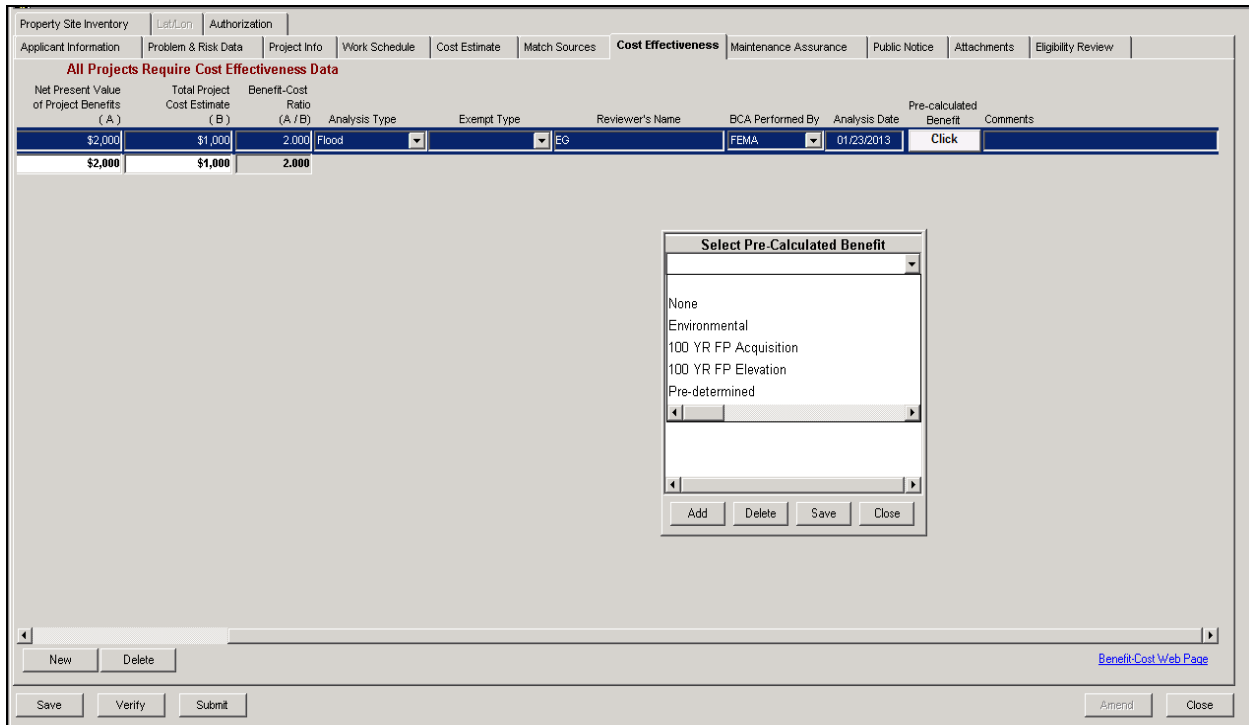

Figure 6-60: Cost Effectiveness Data Fields Completed Showing Pre-calculated Benefit field
5. Figures 6-60 shows the **Cost Effectiveness** tab with completed information.